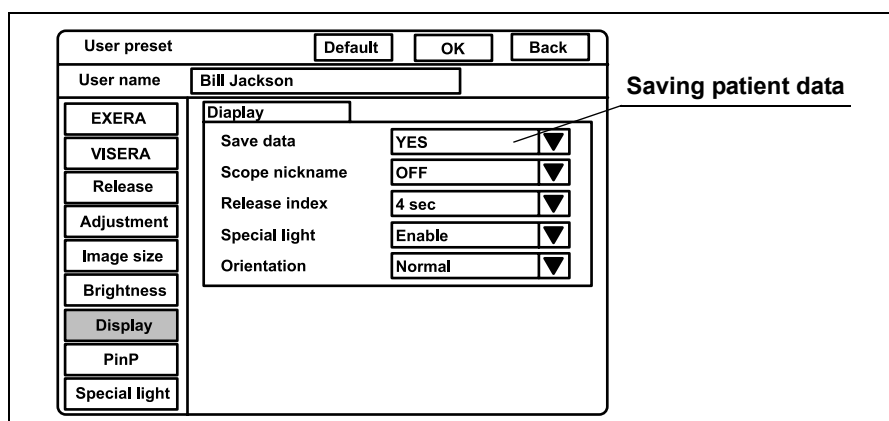

Figure 9.31
1. Click “Display” on the system setup menu. The setting items appear on the right side of the window (see Figure 9.31).
2. Click “ ▼ ” of “Save data” (see Figure 9.31). The setting values of “Yes” and “No” appear in the pull-down menu.